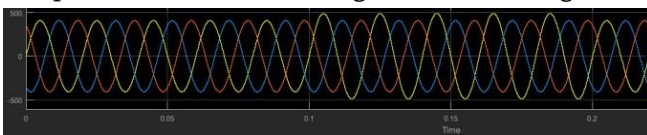
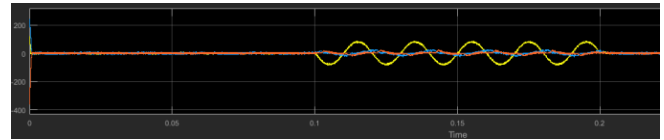
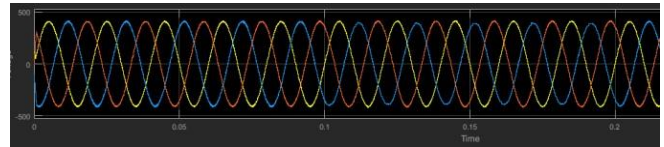

Figure 6. Voltage swell
Figure 7. Compensating voltage
Figure 8. Load voltage
1) Compensation of voltage swell: A voltage swell is created in the network in the time of 0.1 to 0.2s as shown in figure 6. The compensating voltage injected by DVR is shown in Figure 7. After compensation, the load voltage is shown in Figure 8.